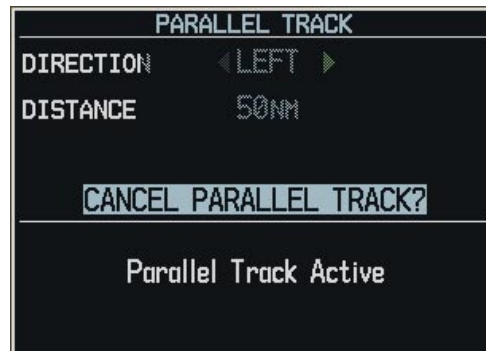

Figure 5-85 Cancelling Parallel Track
- 2) Select 'CANCEL PARALLEL TRACK' (Figure 5-85).